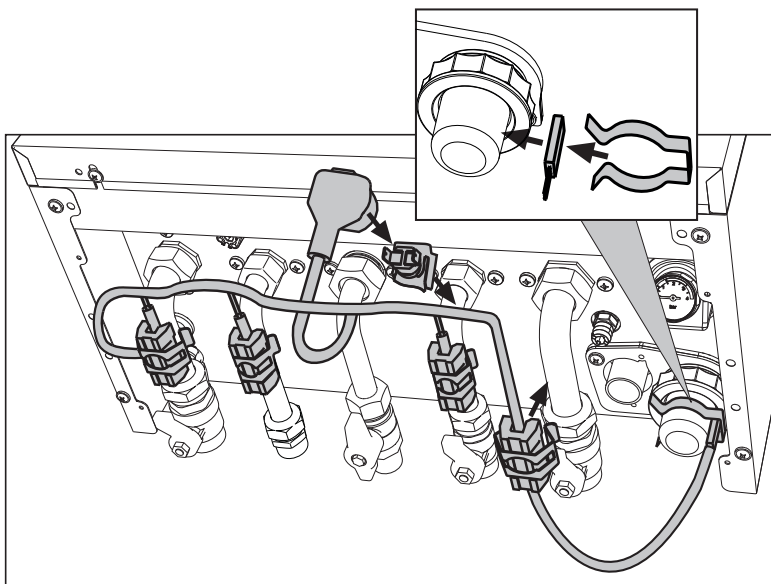

fig. 39- Frost protection kit
In case of installation outside in a place partially protected for temperatures below -5°C and to -15°C , the boiler must be fitted with the special frost protection kit for protecting the circuit. Connect the kit to the PCB as indicated in the wiring diagram in fig. 56 (ref. 288) and position the thermostat and heaters on the pipes as indicated in fig. 39 and in the instructions provided with the kit.